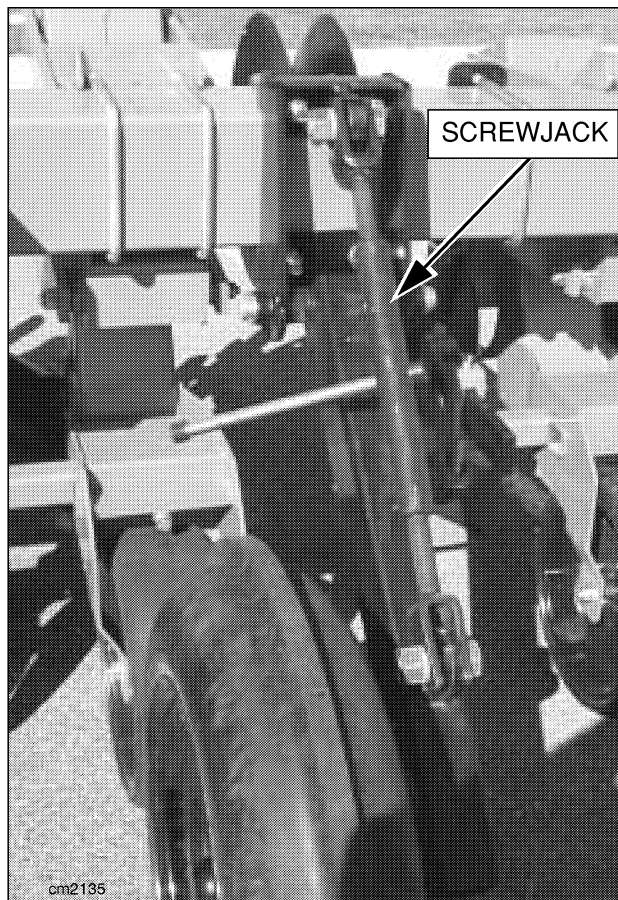

Figure 18 Adjusting Support Wheels
1. Shorten the screwjack to lower to toolbar. Lengthen the screwjack to raise the toolbar. See Figure 18.